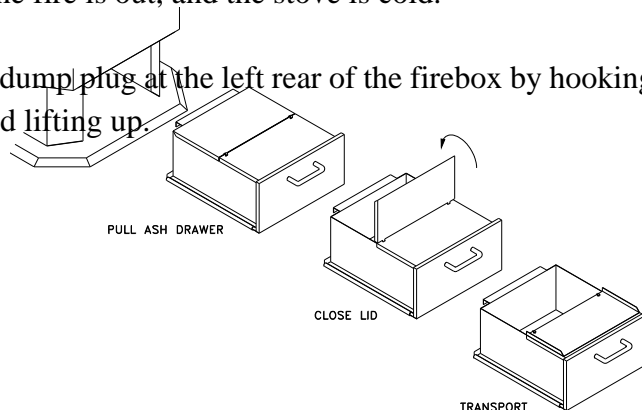

Figure 3.1 Ash removal
5. Cover the plug with the remaining ashes and continue operation of your stove as usual. The Ash Drawer is shown in Figure 3.1 and can be removed by pulling it out toward you. Lift the Ash Drawer slightly or the pedestal base may get scratched. Close the rear half of the Ash Drawer lid to prevent spillage. Ashes should be placed in a metal container with a tightly fitting lid. This closed container should be placed on a non-combustible floor or on the ground, well away from all combustible materials, pending final disposal. Ensure the rear half of the lid is open before replacing the Ash Drawer.